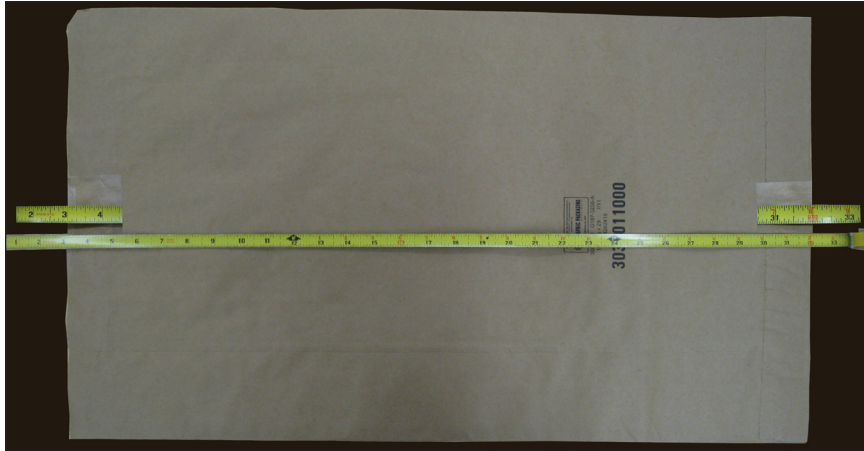

Fig. 3
2. The first step is to locate the top edge of the bag in the software. In the case of a bag under 32", place the 32" mark on your ruler on the bottom edge of the bag and read the measurement at the top of the bag. (Fig. 3) In our example, the bag measures 29" and the top of the bag occurs at the 3" mark on the ruler. Place a guideline at the 3" mark on the vertical scale to define the top edge of the bag. (Fig. 4)